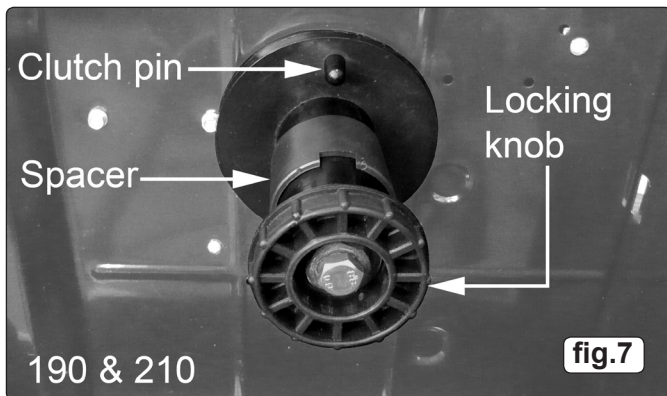
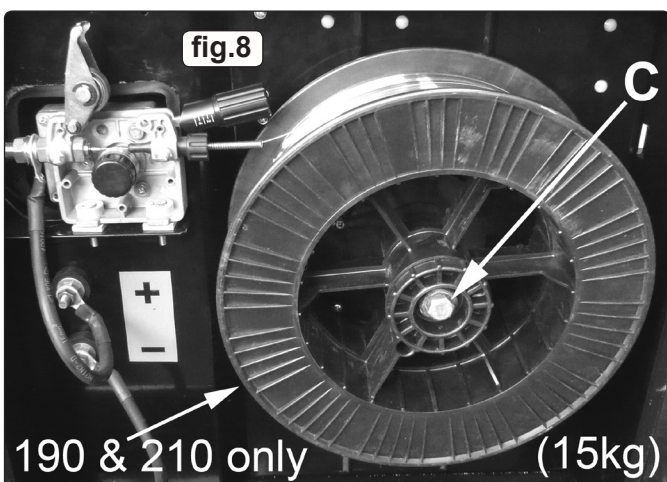

fig.7
fig.8
3.7.1 Unscrew the locking knob from the end of the spool holder (see fig.7) and remove the spacer. Slide the reel of wire onto the spool holder and ensure that the clutch pin at the back of the spool holder engages into the guide hole in the wire reel moulding. This will prevent the wire reel from freewheeling on the spool holder. When using a 5kg reel, slide the spacer onto the spool holder before refixing the locking knob. Ensure that the wire is coming off the top of the reel in the direction of the wire drive unit as shown in fig.8 which shows a 15kg reel of wire in place on the spool holder.
- 3.11.3 Tighten the clutch nut located in the centre of the wire spool holder with a spanner (fig.8-C) and test the machine as above until the wire stops over running.